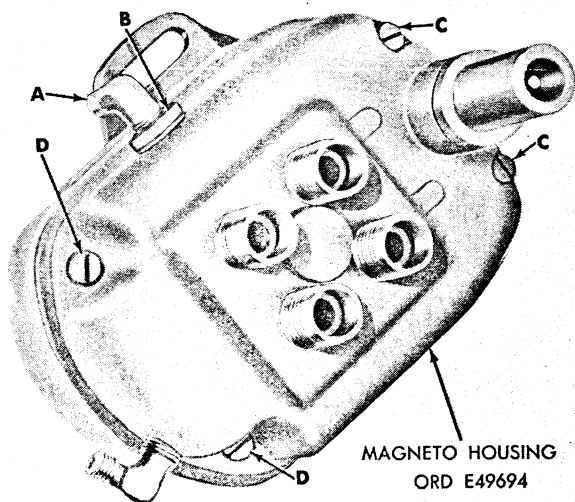
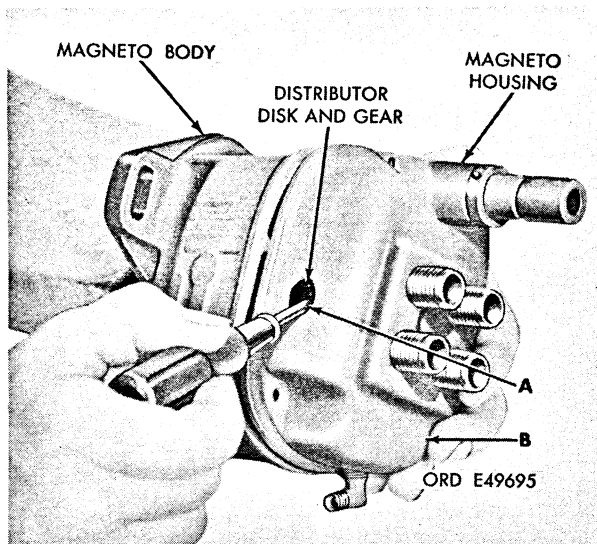
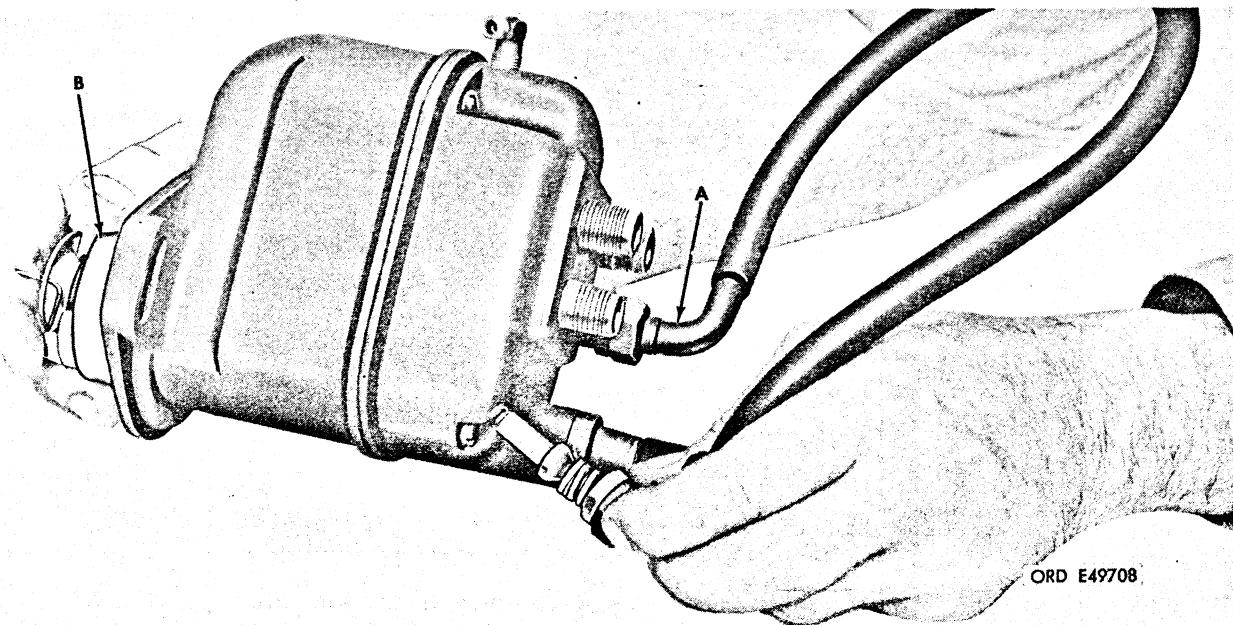

FIGURE 74.1 REMOVING OR INSTALLING MAGNETO HOUSING ATTACHING PARTS.
FIGURE 74.2 REMOVING MAGNETO HOUSING.
FIGURE 74.13 CHECKING OPERATION OF MAGNETO ASSEMBLY.
a. Description. The Slick Electro Model 445 magneto (fig. 74.1) used on
- (1) Figure 74.1. Remove 90 degree elbow (A) from reducer bushing (B) and then remove reducer bushing from housing. Remove two No. 8 x 3/4 fillister head screws (C) securing magneto housing. Remove two No. 8 x 1-3/4 fillister head screws (D) securing magneto housing.
- (2) Figure 74.2. Insert a screwdriver through reducer bushing hole (A) in magneto housing placing the end of screwdriver against distributor disk and gear. Separate magneto housing (B) from magneto body.
g. Installation of Magneto Housing. Refer to paragraph 127.6a and reverse the sequence of illustrations and instructions to install the magneto housing. Do not install the reducer bushing (B, fig. 74.1) or the 90 degree elbow (A, fig. 74.1) until after number on firing position is found as shown in figure 74.13. It is not necessary to hold distributor disk and gear during installation of magneto housing (fig. 74.2).
(1) Figure 74.13. Connect spark plug lead and conduit assembly (A) to connector on magneto housing marked number one.
(2) Figure 74.13. Rotate magneto coupler and advance assembly (B) counterclockwise and check for spark jump from end of conduit to magneto housing. Spark should be blue in color and must jump across a gap of approximately 1/8-inch. When spark does not jump between conduit and housing remove housing and replace condenser and point set. If magneto still fails to operate after second kit is installed, replace magneto assembly.